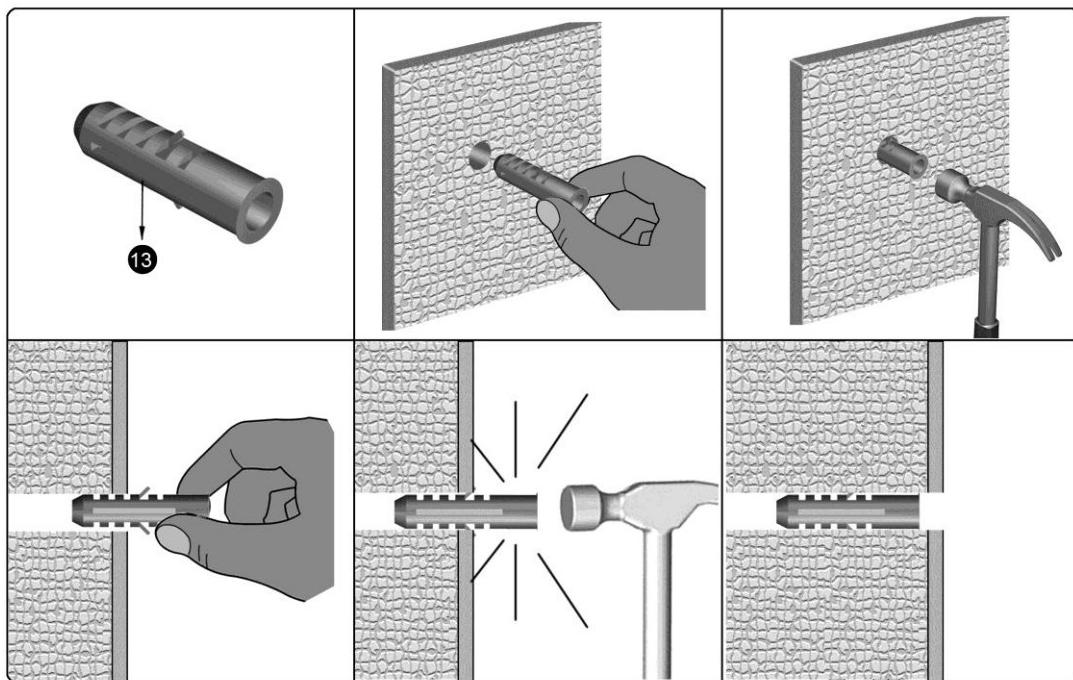

Figure 1-8
4. Insert Anchor (13) into anchor hole and seat with gentle tapping from hammer. Hammer anchor screw until anchor has fully collapsed against back side of concrete wall (**See Figure 1-8**).